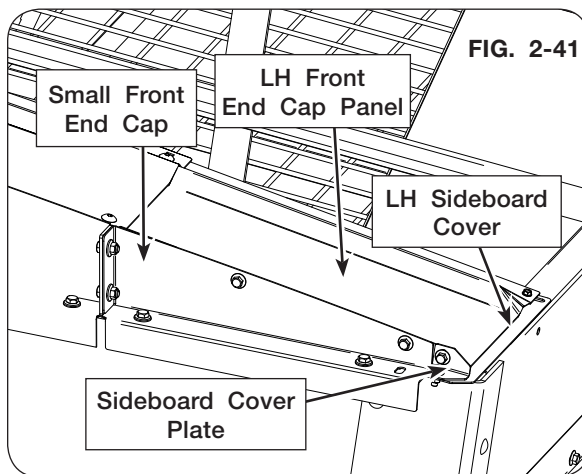

FIG. 2-41
- 28. Loosely attach the small front end cap (292892B) on top of front sideboard and to front end cap with 3/8" flange screws (95585) and 3/8" locknuts (9008159). (FIG. 2-41)
NOTE: The left-hand front end cap panel (292897B) tabs will fit underneath the large front end cap. (FIG. 2-41)
- 29. Loosely secure left-hand front end cap panel (292897B) to small front end cap with 3/8" flange screws (95585) and 3/8" locknuts (9008159) and to large front end cap with 3/8" truss head screws (9005312) and 3/8" locknuts (9008159). (FIG. 2-41)
- 30. Loosely attach sideboard cover plate (296249B) to left-hand front end cap panel with 3/8" flange screw (95585) and 3/8" locknut (9008159). (FIG. 2-41)
- 31. Loosely install left-hand sideboard cover (296549B) between the end cap and left-hand sideboard with 3/8" flange screw (95585) and 3/8" locknut (9008159). (FIG. 2-41 and 2-42)